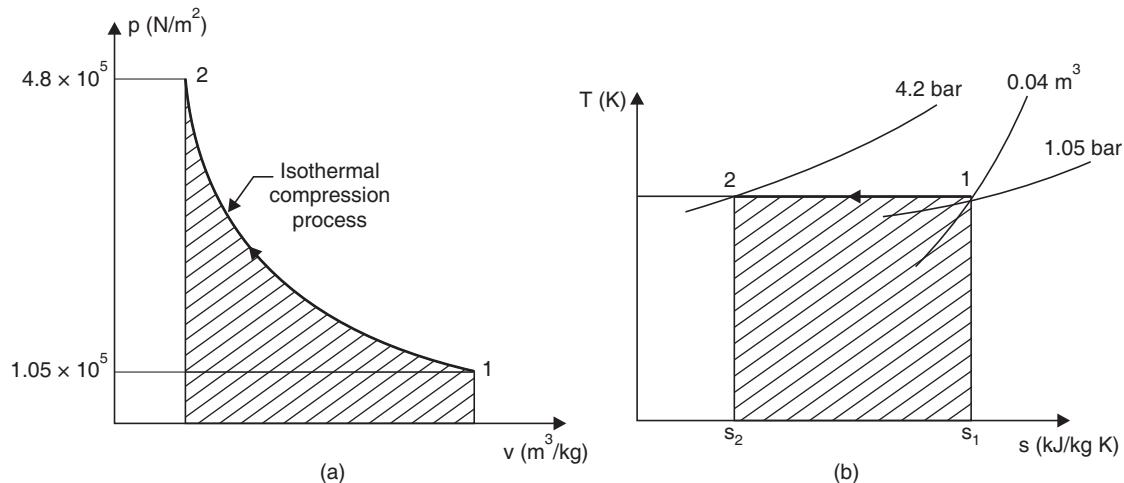

Fig. 3.31
**Solution.** Refer Fig. 3.31.
The process is shown on a p-v and a T-s diagram in Fig. 3.31 (a) and 3.31 (b) respectively. The shaded area in Fig. 3.31 (a) represents **work input**, and the shaded area on Fig. 3.31 (b) represents **heat rejected**.
(ii) **Heat rejected** = Shaded area on Fig. 3.31 (b)